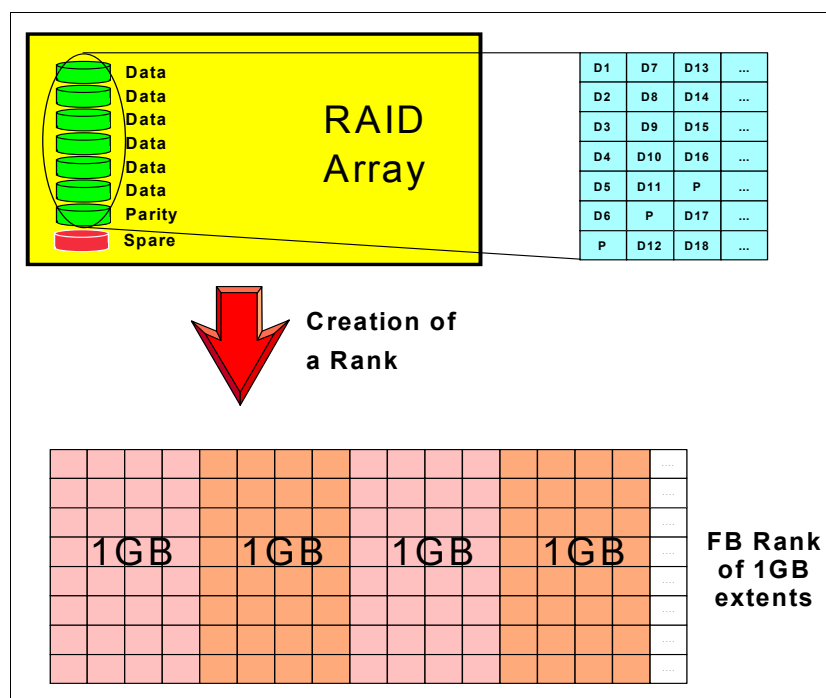
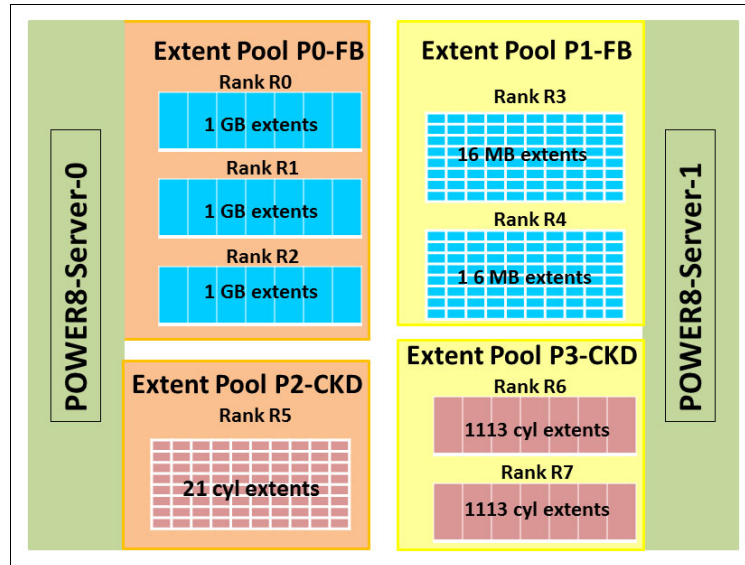

Figure 4-4 Forming an FB rank with 1-GB extents
Figure 4-5 Extent pools
- ▶ The capacity of the array is subdivided into partitions, which are called *extents*. The extent size depends on the *extent type*, which is FB or CKD. The extents are the building blocks of the logical volumes. An extent is striped across all drives of an array, as shown in Figure 4-4 on page 111, and indicated by the small squares in Figure 4-5 on page 113.
Figure 4-4 shows an example of an array that is formatted for FB data with 1-GB extents. The squares in the rank indicate that the extent consists of several blocks from separate drives.
Figure 4-5 shows an example of a mixed environment that features CKD and FB extent pools.